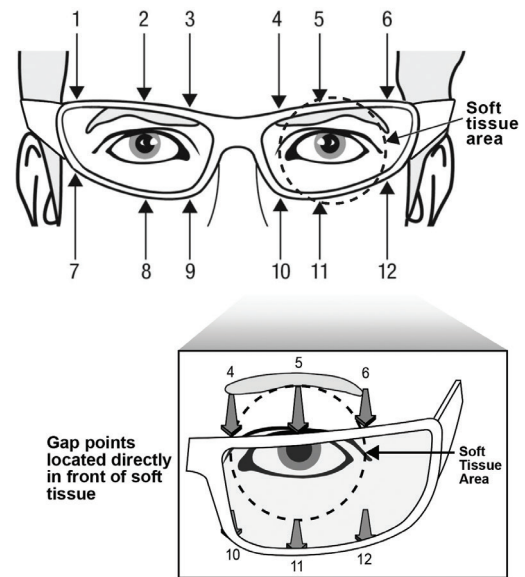

Figure 4: Gap check locations
A. Review the check points in Figure 4. Pay close attention to the location of positions 1 and 6 on the top of the eyewear and 7 and 12 on the bottom of the eyewear.
C. Gently probe the gap clearance around the perimeter of the eyewear, checking the top and the bottom of the frame as well as the nose bridge area in the locations marked in Figure 4. For each location, mark only **one** gap measurement value on the Fit Evaluation Form by checking the appropriate box. The gap measurement is the sphere size that best matches the space between the face and the eyewear at the check points. We recommend to start with the 12 mm sphere.